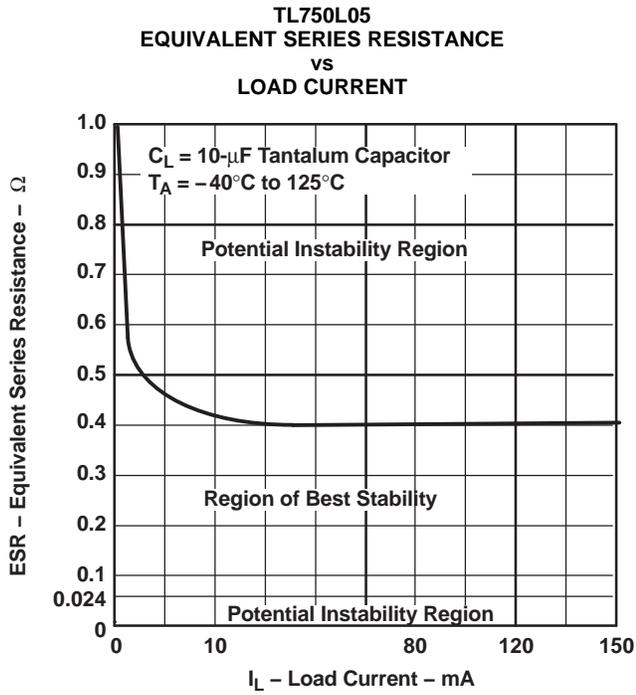

Figure 1.
- (1) Stresses beyond those listed under "absolute maximum ratings" may cause permanent damage to the device. These are stress ratings only, and functional operation of the device at these or any other conditions beyond those indicated under "recommended operating conditions" is not implied. Exposure to absolute-maximum-rated conditions for extended periods may affect device reliability.
- (2) The transient input voltage rating applies to the waveform shown in Figure 1.
The TL750L, TL751L series are low-dropout regulators. This means that capacitance loading is important to the performance of the regulator because it is a vital part of the control loop. The capacitor value and its equivalent series resistance (ESR) both affect the control loop and must be defined for the load range and temperature range. Figure 1 shows the recommended range of ESR for a given load with a 10- μF capacitor on the output.